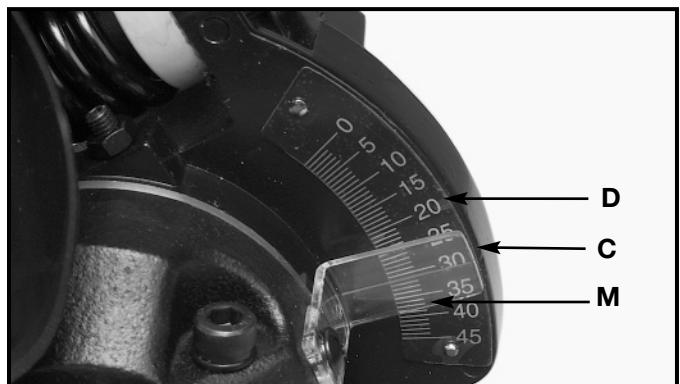

Fig. 19
3. Positive stops are provided to rapidly position the saw blade at 90° and 45° to the table. Refer to the section of this manual titled "**Adjusting 0° and 45° bevel positive stops.**" The bevel angle of the cutting arm is determined by the position of the pointer (C) Fig. 19, on scale (D).
4. In addition, a marked indicator (M) is provided on the bevel scale (33.9°) for cutting crown moulding. Refer to the "**CUTTING CROWN MOULDING**" section of this manual.